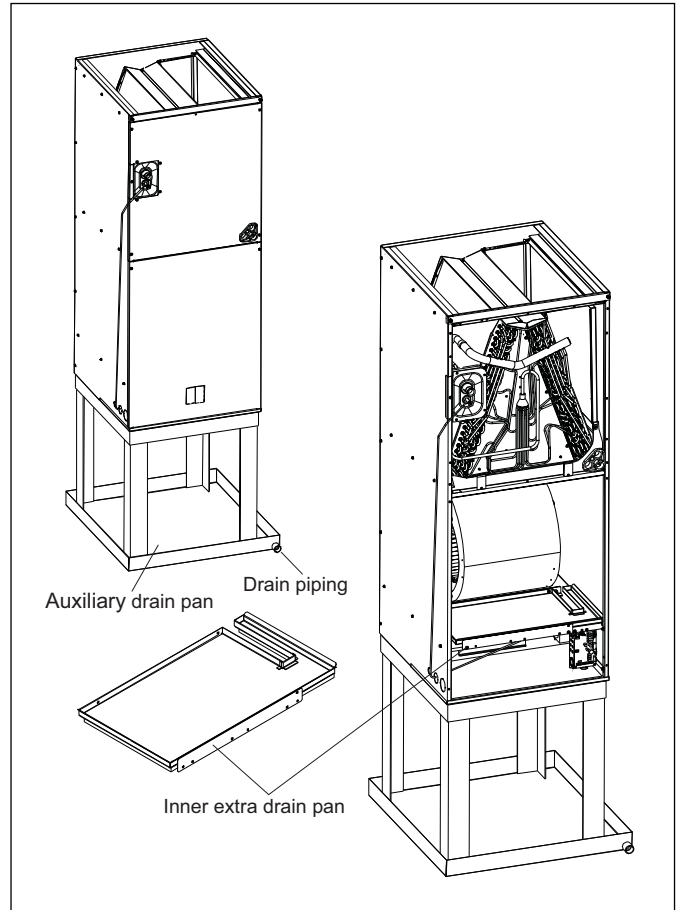

Figure 6 Installed Vertical Downflow
- ▶ Inner extra drain pan is recommended to be installed for 4 and 5 ton vertical downflow applications installed in high humidity environments. This inner extra drain pan can be ordered from the manufacturer as a spare part. Refer to Figure 6.